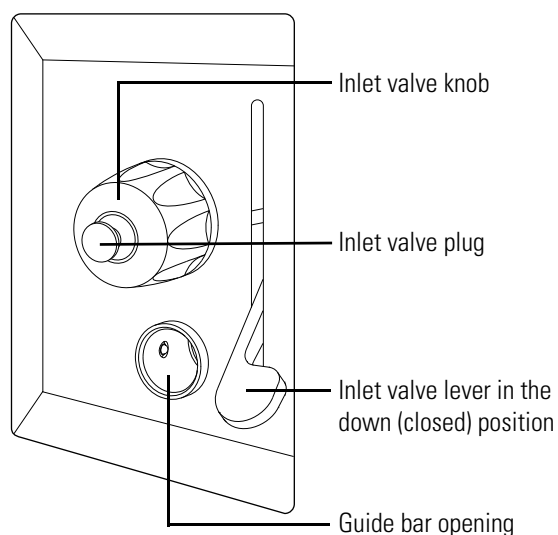

Figure 6-39. Inlet valve components
1. Pull down the inlet valve lever to close the inlet valve. See Figure 6-39.